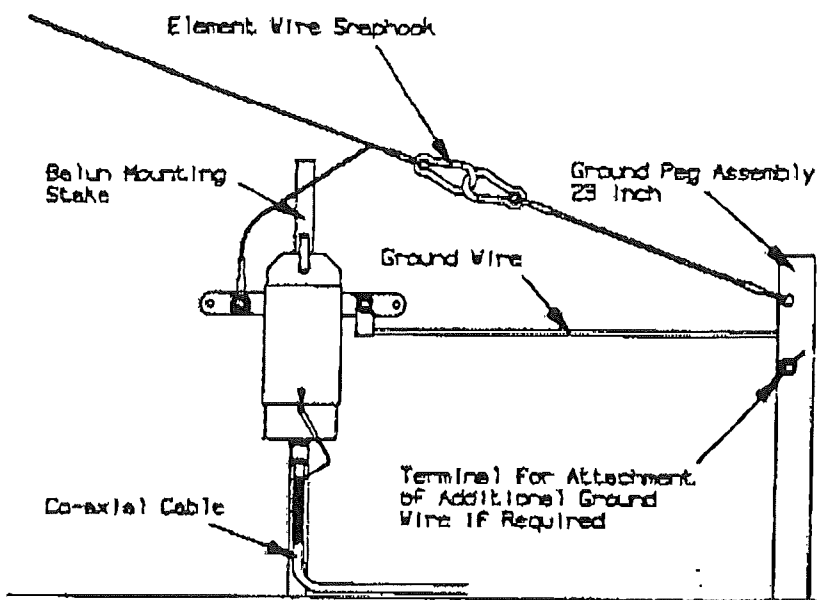

Figure 5-15. Half Rhombic Balun Connections
- Step 22 Attach the Ground Strap from the Ground Peg Assembly to the free terminal of the Balun. See Figure 5-15.